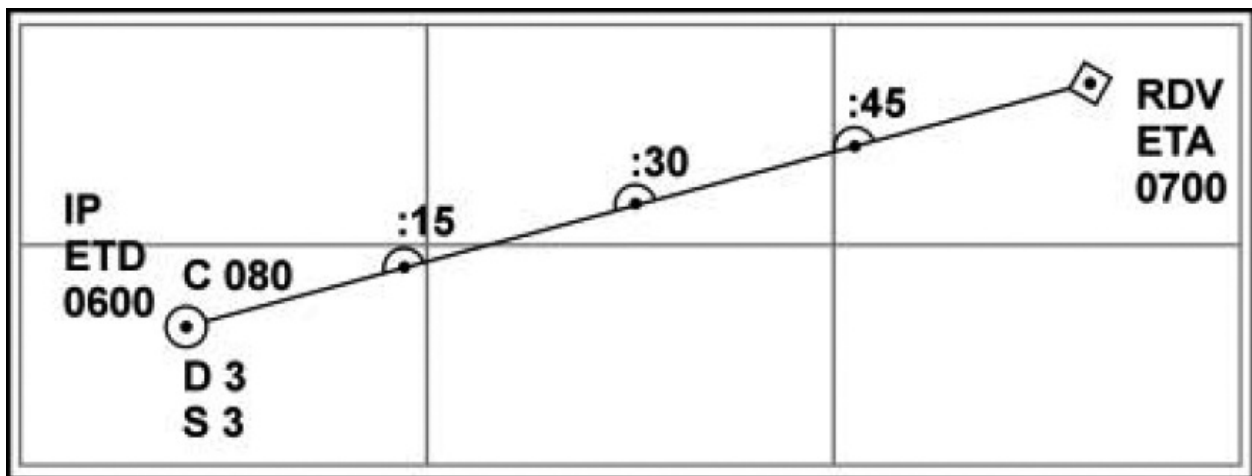

Figure 5-6. Example of labeling a dead-reckoning plot
- Speed rounded to the nearest knot and placed below the distance for each leg (Figure 5-6).